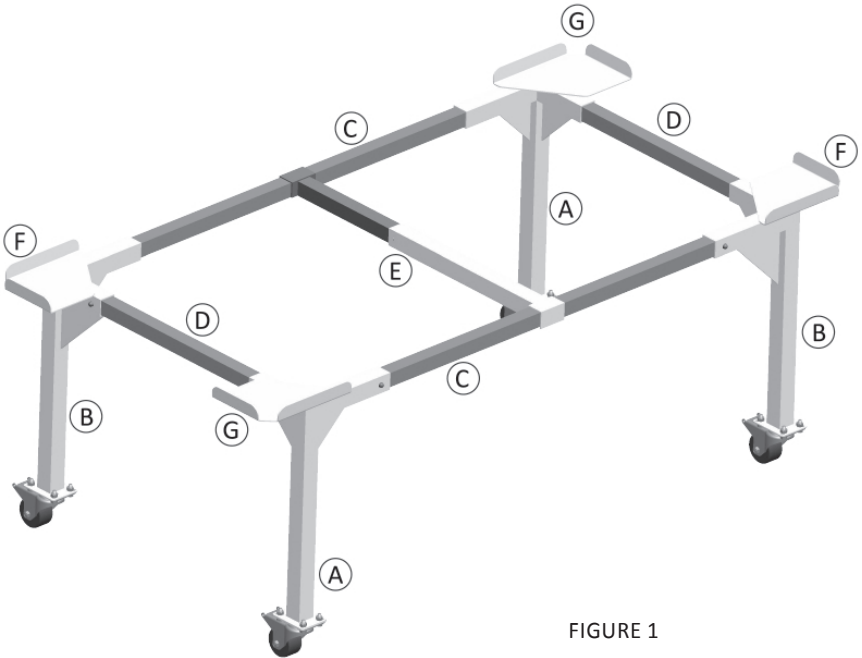

FIGURE 1
IMPORTANT: You must install Corner Legs A at corners diagonally opposite from each other, and Corner Legs B at the two remaining corners, as shown in Figure 1. Otherwise, the Corner Retainers will not fit properly.
4. Now you can insert the Corner Retainers F and G, placing them as shown in Figure 1. Be sure to place the Corner Retainers F at opposite corners to each other and the Corner Retainers G at opposite corners to each other as you did with the legs (**IMAGE 4**).
6. Complete the assembly by inserting the Corner Retainers F and G, placing them as shown in **IMAGE 4**. Be sure to place the Corner Retainers F at corners diagonally opposite to each other, and the Corner Retainers G at the remaining corners, as shown in Figure 1.